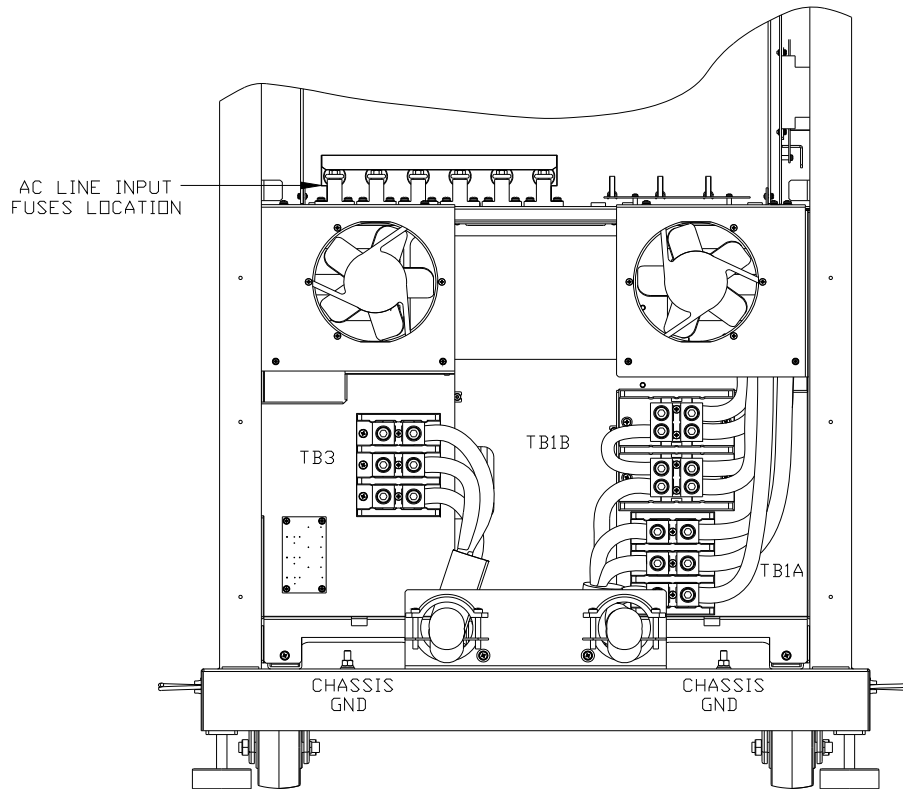

Figure 4-2: Location of BPS75 and BPS90 AC Input Connection Block (TB3) and Chassis Ground Connection
It is important to understand the purpose and operation of the On/Off circuit breaker of the BPS Series located on the lower left side of the front panel. This is a 2A rated breaker that is used to engage and protect the LV Power supply of the BPS chassis only. The LV Power supply provides DC bias power to the entire BPS system. The AC input power is routed through a set of three AC line fuses (F1, F2 and F3) located in the lower left bottom corner of the BPS. (See Figure 4-2 for fuse locations). These fuses protect the three BPS amplifiers and the AC input transformer from excessive input currents. The AC input power is connected to the input transformer through a large three-pole contactor. Removing AC power to the LV Power Supply by opening the front panel circuit breaker (moving the lever to the down (OFF) position) will cause this contactor to lose its coil voltage and will result in it opening and disconnecting the input transformer and amplifier from AC mains input.
The output terminal blocks, TB1A and TB1B are located at the front of the unit behind the bottom access panel. See Figure 4-2 for details.
**CAUTION:** *Always disconnect any input power completely when removing any protective cover and allow the internal capacitors to fully discharge (minimum of 15 mins) before removing any cover.) See Figure 4-2 for details.*
It is important to understand the purpose and operation of the On/Off circuit breaker of the BPS Series located on the lower left side of the front panel. This is a 2.5A rated breaker that is used to engage and protect the two LV Power supplies of the BPS chassis only. The LV Power supplies provide DC bias power to the entire BPS system. The AC input power is routed through a set of six AC line fuses (F1 – F6) located in the lower rear left bottom corner of the BPS. (See Figure 4-2 for fuse locations). These fuses protect the six BPS amplifiers and the AC input transformer from excessive input currents. The AC input power is connected to the input transformer through a large three-pole contactor. Removing AC power to the LV Power Supply by opening the front panel circuit breaker (moving the lever to the down (OFF) position) will cause this contactor to lose its coil voltage and will result in it opening and disconnecting the input transformer and amplifier from AC mains input.
The output terminal blocks, TB1A and TB1B are located at the lower rear of the unit behind the bottom access panel. See Figure 4-2 for details.